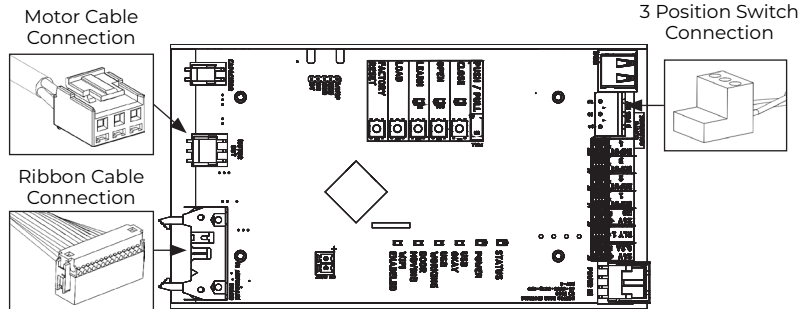

Figure 13
5. Connect the motor cable and ribbon cable from the operator body to the control board. (Figure 13)
6. Connect the 3-position switch to the power supply. (Figure 13)